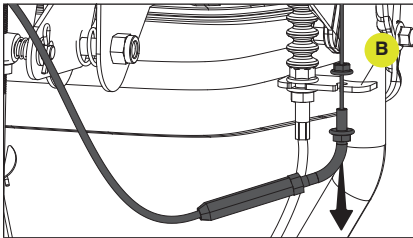

Figure 87
2. Pull down on the cable to remove it from the metal plate (B) holding it in place. (Fig. 87)